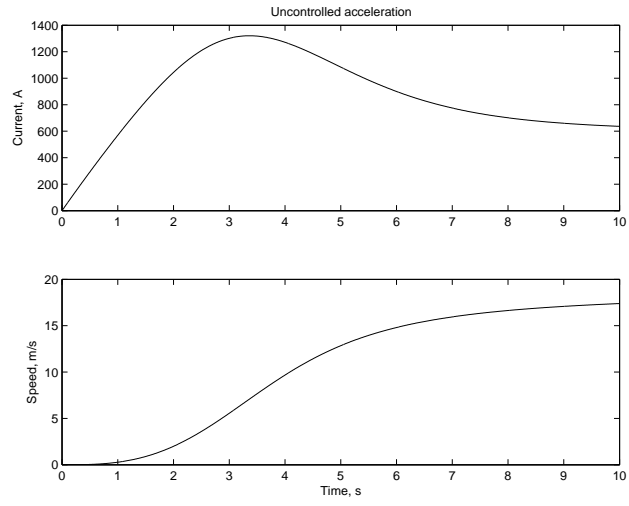

Figure 5: Simulation of uncontrolled acceleration
3. **For 6.979.** Simulation of this situation is a fairly straightforward exercise. Perhaps the most ambitious assumption here is that the car does not blow a circuit breaker. The scripts required to do this simulation are appended and the result is shown in Figure 5.